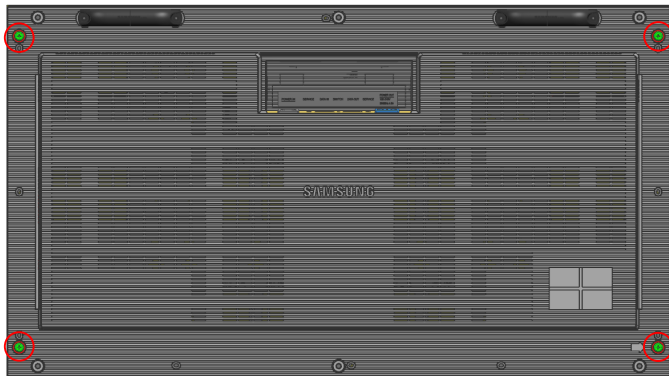

Fig1. Positions of BOLT ETCs fastened in delivered product
- ① Check that the BOLT ETCs are fastened. (**Fig.1**)